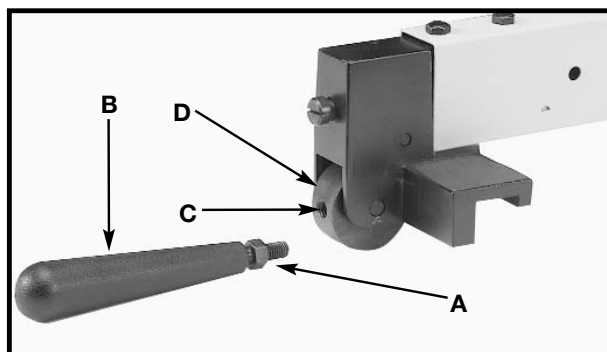
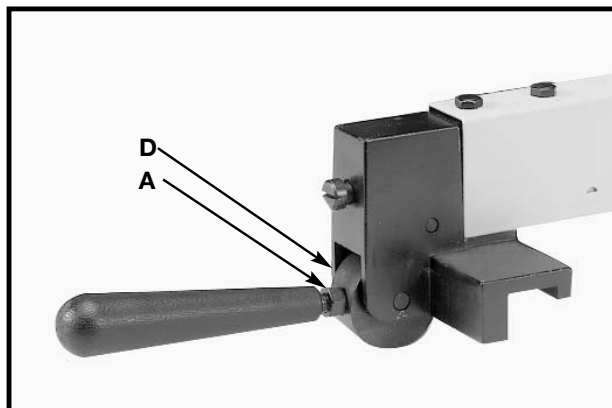

Fig. 26
Fig. 27
1. Thread the M8x1.25 hex nut (A) Fig. 26, approximately halfway on the stud of the handle (B).
2. Thread the handle (B) Fig. 26 into the tapped hole (C) in the fence cam (D). Tighten the hex nut (A) Fig. 27 against the cam (D).